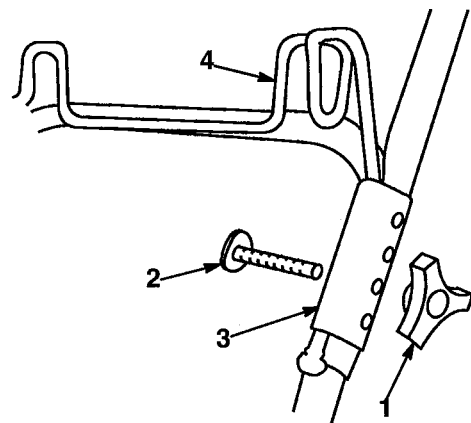

Figure 39
1. Remove bag from rear bag hanger. Remove bolt(s) and knob(s) securing hanger clamps to handle sections (Fig. 39). Hanger clamps have four adjustment holes.